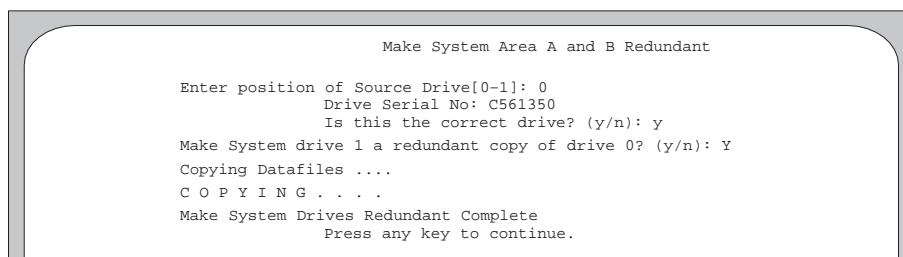

Figure A-10. Example of Prompts and Responses for the Make Both Areas Redundant Utility.
1. From the Make System Drives Redundant menu, access the Make Both Areas Redundant option. Figure A-10 is an example of a completed utility for making both areas redundant.